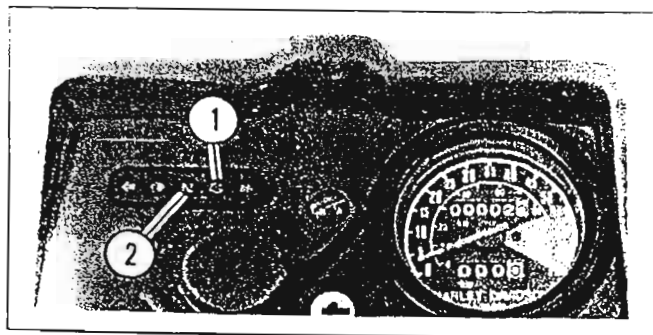

Figure 2-20. Instrument Panel Indicator Lamps
See Figure 2-20. Insert key into ignition switch and turn clockwise to ON position. Check that low voltage indicator lamp (1) lights. All other lamps should be off.